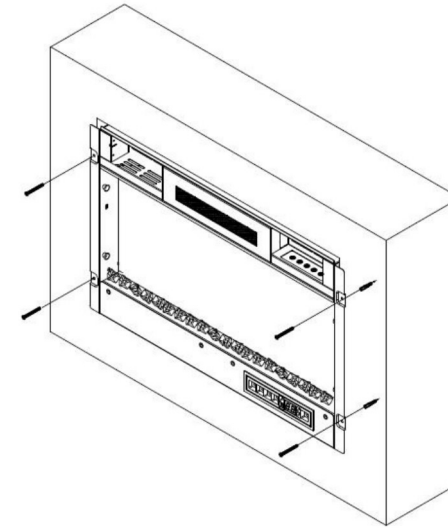

Fig.2
- For optimum viewing, mark the left and right screws ( fixing positions on the wall in accordance with the appliance's holes; See Fig.2